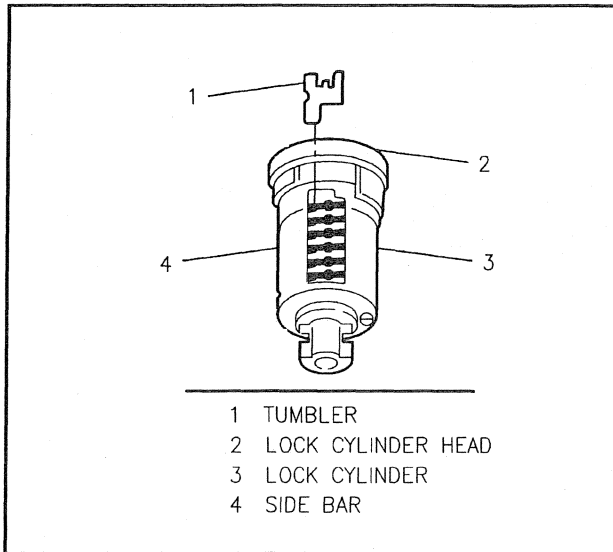

Figure 22—Installing Tumblers
2. Starting with position one (the open end or head of the cylinder), insert tumblers in their proper slots in the order called for by the code (figure 22).